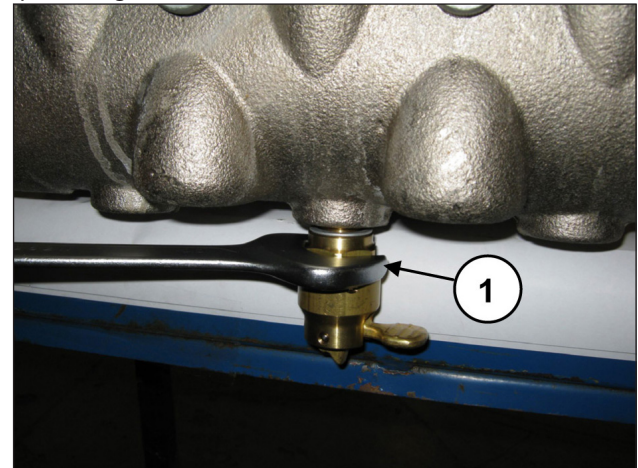

Fig. 109
Unscrew the valve opening device using a 30 mm wrench (pos. ①, Fig. 109).